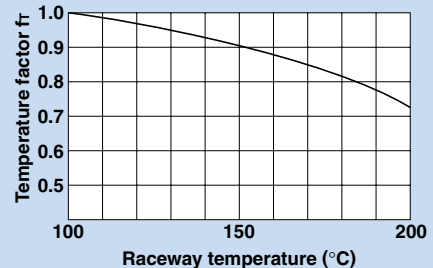

Fig. 2
- fT : Temperature factor (see Fig. 2)